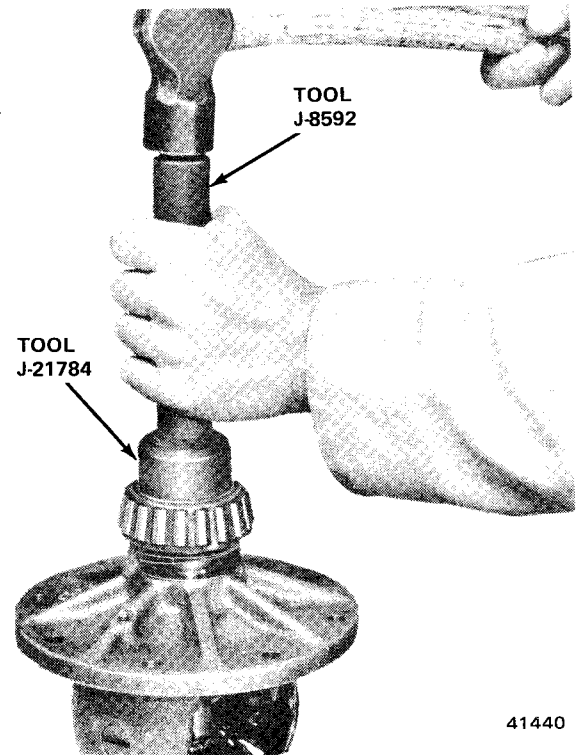

Fig. 10-44 Installing Differential Bearings
(1) Install differential bearings on case using Installer Tool J-21784 and Driver Handle J-8592 (fig. 10-44).
(2) Install thrust washers on differential side gears and install gears in differential case.
(3) Install differential pinion gears in case and install thrust washers behind pinion gears. Align bores in pinion gears.
(4) Rotate differential side and pinion gears in case until pinion mate shaft bores in pinion gears are aligned with shaft bores in case.
(5) Install thrust block in case. Insert block through bore in side gear. Align bore in block with pinion mate shaft bores in gears and case.